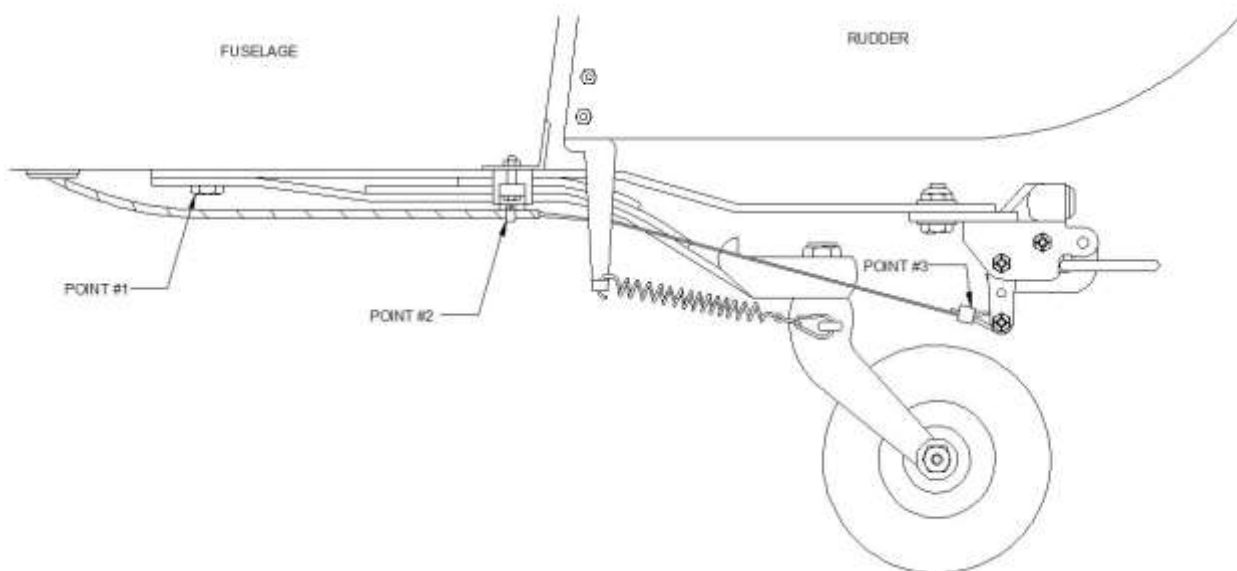

Figure 4.10: Tow Hook Installation on Aeronca Models 7AC, 15AC, 7BCM, 7DC, and 7GCA.
- (6) Aeronca Models 7AC, 15AC, 7BCM, 7DC, and 7GCA. Refer to Figure 4.10 for clarification.